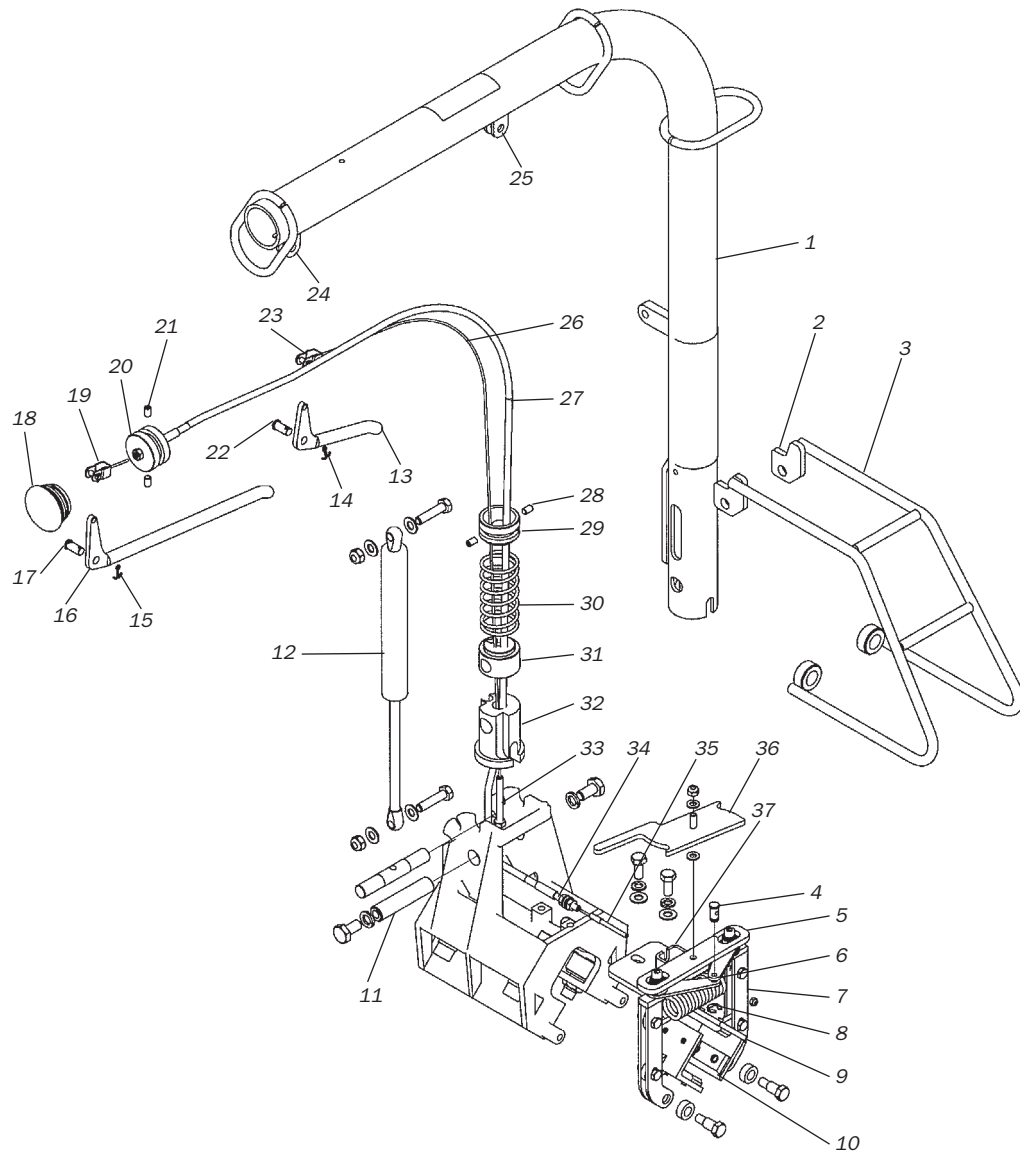

Figure 9.6.2 Exploded Assembly (with Type II Brake System)
The Brake System is moved into its released position by activating the Brake Lever. The Brake Lever is mounted at a convenient position on the TRAM Arm and is activated by clapping the lever and pulling it up against the TRAM Arm. The lever action pulls a mechanical cable which runs from the Brake Lever down through the TRAM Arm to the Brake Mechanism. The end of the mechanical brake cable is attached to two pivoting arms and as the brake cable retracts the arms pivot to extend the mechanical coil spring and open the brake shoes, thus releasing the closing force of the brake pads against the TRAM Rail. Figure 9.6.2 shows an exploded assembly view of components referenced in the procedures in this Chapter.
Note! Refer to Figure 9.6.2 throughout this procedure for identification of components.
25. Remove the Split Pin and Clevis Pin from the end of the Brake Arms and discard. See Figure 9.6.2.